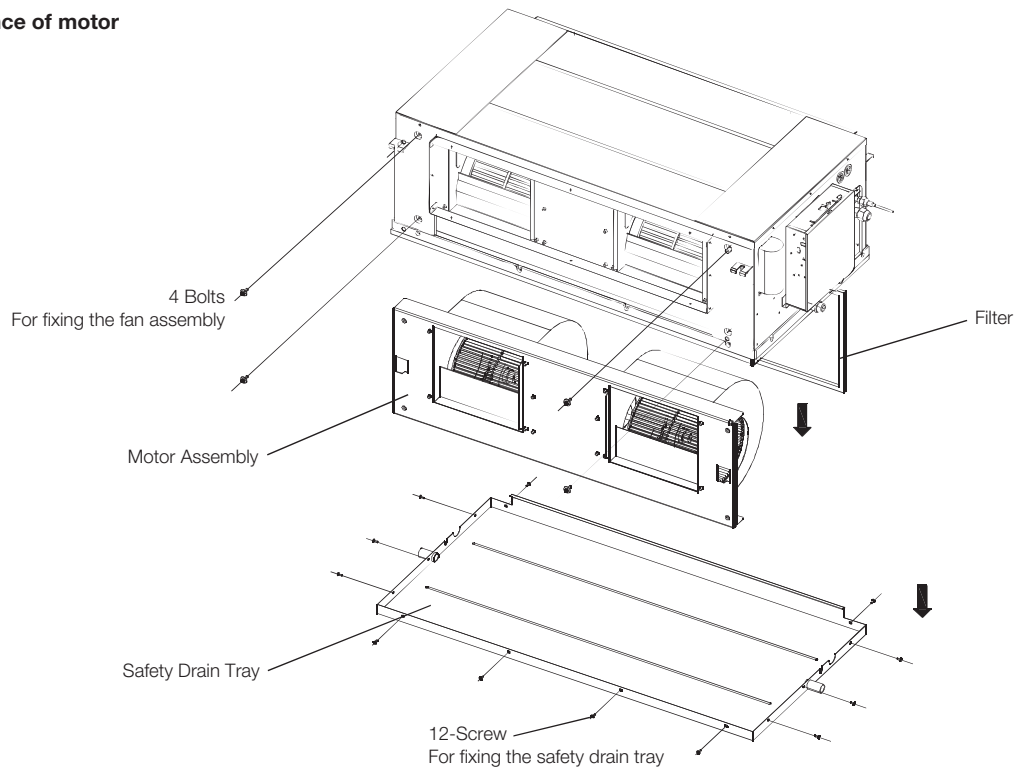
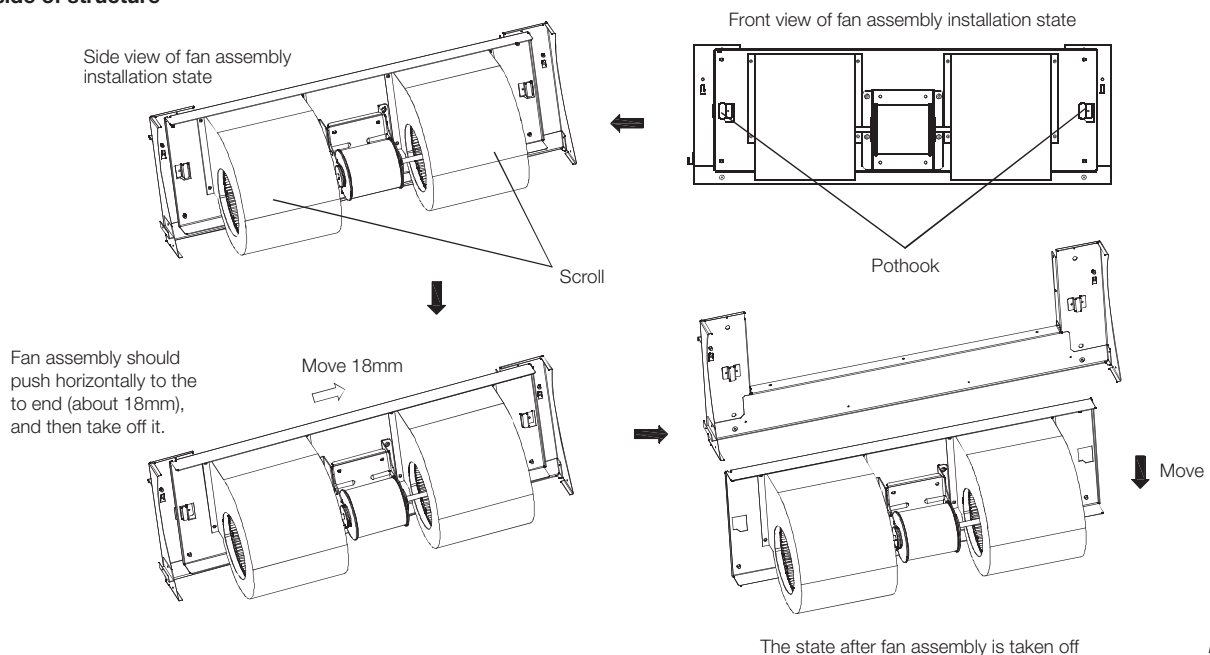

Fig.4-17
Fig.4-18
1. Refer to Fig. 4-17, remove all 11 screw from safety drain tray, and take off the safety drain tray.
2. Refer to Fig. 4-17, remove all 4 bolts from fan assembly, see Fig. 4-18, according to which orders to take off the fan assembly.
3. Refer to Fig. 4-18, horizontal pushing the fan assembly, until it cannot not move any further, and then lift up slightly and take down to remote it.